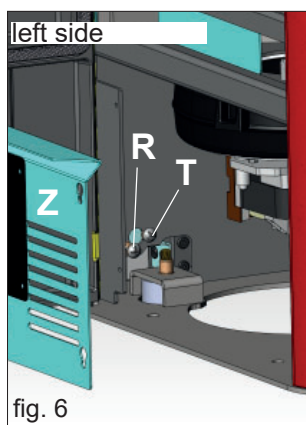

fig. 6
Check the vertical alignment of the ceramic side elements (C) and make any necessary adjustments with the screws above the top (V - fig. 5) and inside the stove with the screws (R - fig. 6/7)
N.B. Before carrying out this operation, remove the galvanised panel (Z - fig. 6/7) on both sides and loosen the locking screws (T - fig. 6/7).